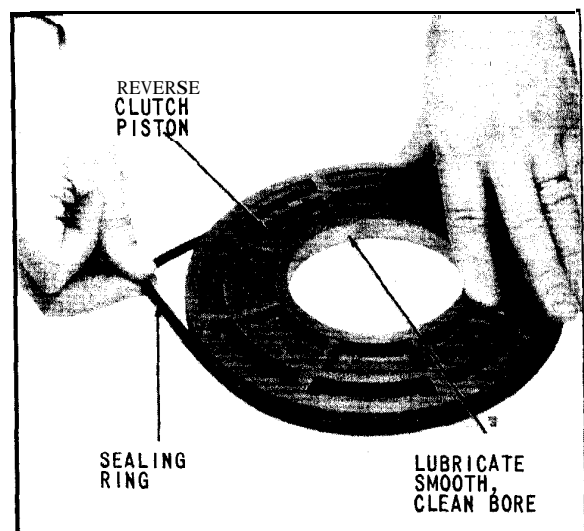

Fig. 58 Assembling Sealing Ring
51. After lubricating sealing ring with petroleum jelly, assemble in groove of reverse clutch piston, as shown in (Fig. 58).